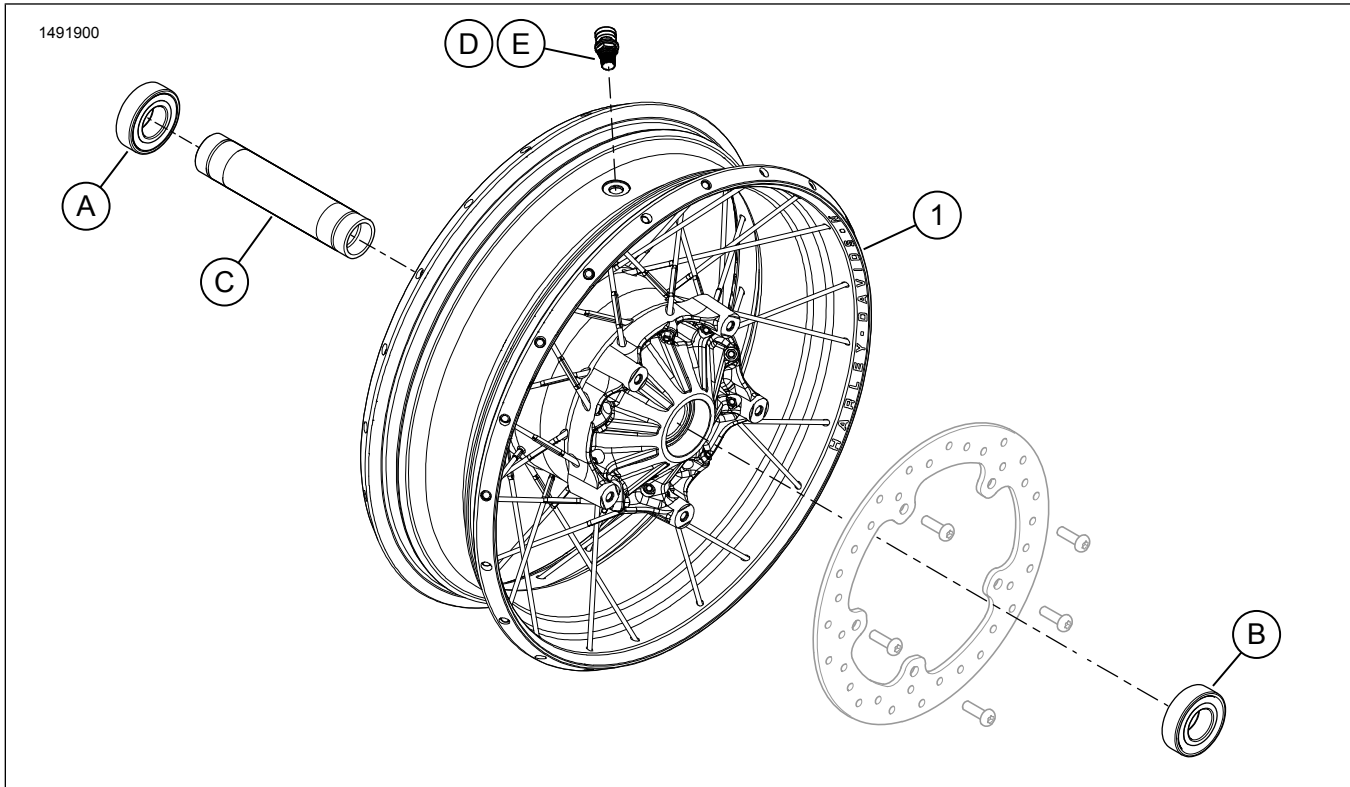

Figure 1. Service Parts: Rear Wheels (16-inch Shown)
See Figure 1 and Table 2.
1. See Figure 1. Install valve stem assembly on wheel (1). See service manual.